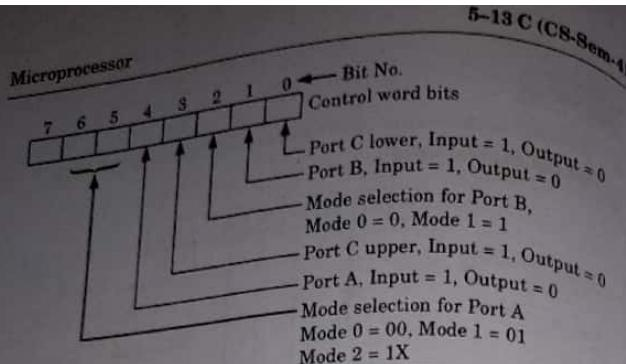

Fig. 5.9.1. Control word bits for Intel 8255.
- 1. According to the requirement a port can be programmed to act either as an input port or an output port. For programming the ports of 8255 a control word is formed. The bits of the control word are as shown in Fig. 5.9.1.